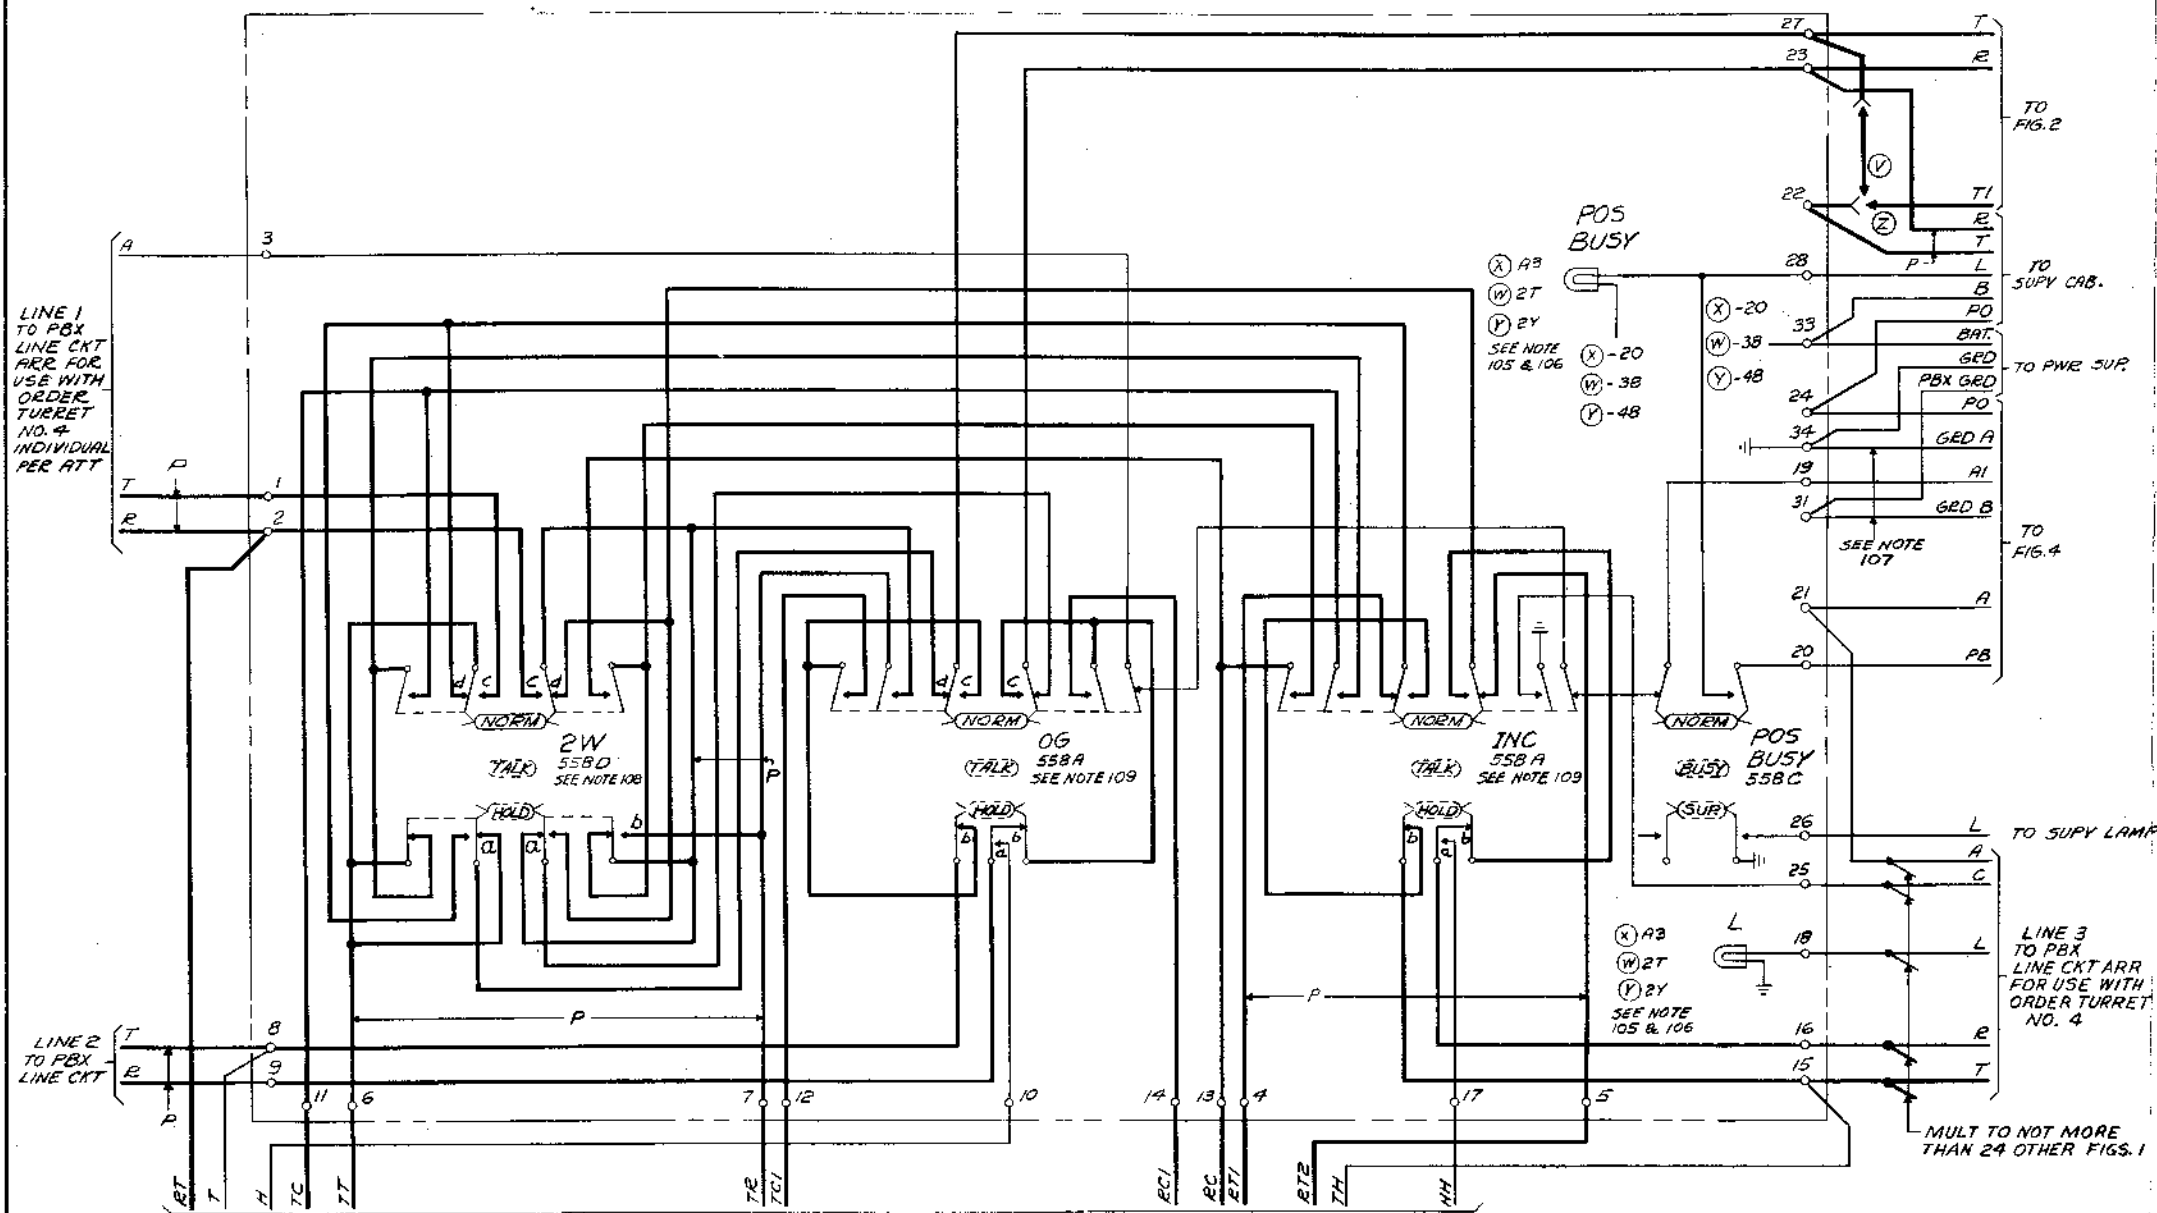

FIG.2
- (c) In Fig. 2 the Y-BK contacts of dial are shown closed.